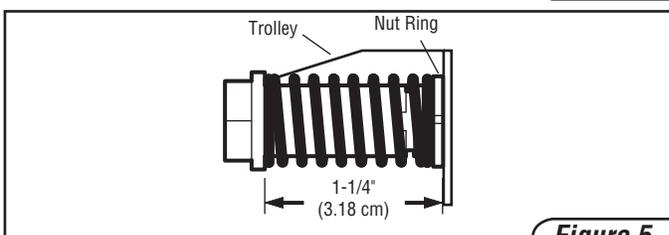

Figure 5
12. Reset the belt tension by tightening the spring nut by hand. Place an open-end wrench on the square end of the spring nut and tighten clockwise until spring is compressed to 1-1/4" (3.18 cm). This sets the spring to optimum tension. Belt may slip off sprocket if belt is too loose. If belt does slip, reset belt and re-tighten spring nut by turning nut clockwise an additional 1/2 turn. *Do NOT over tighten belt* (Figure 5).